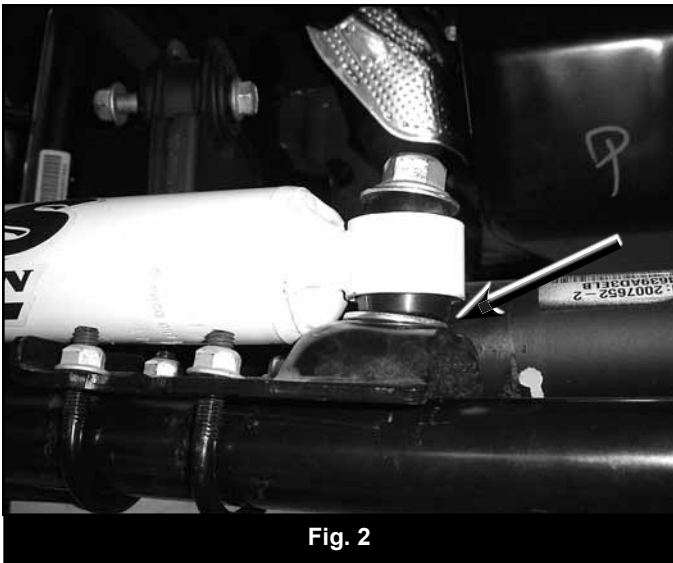
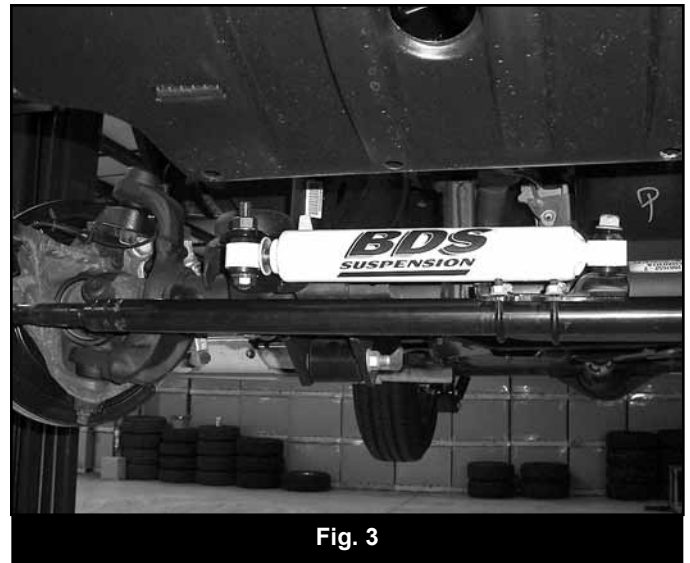

Fig. 2
Fig. 3
9. Turn the steering wheel all the way to the right. This will be the shortest distance between the two stabilizer mounts. Attach the stabilizer to the tie rod bracket with the washers as shown (Fig 2). Adjust the position so that the stabilizer has about 1/2" of rod showing. In this position the body of the cylinder will be the closest to the axle bracket. Rotate the tie rod bracket up to the top of the tie rod as shown. (Fig 3)